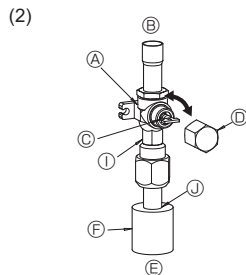

Fig. 4-7
(2) Gas side of stop valve (Fig. 4-7)